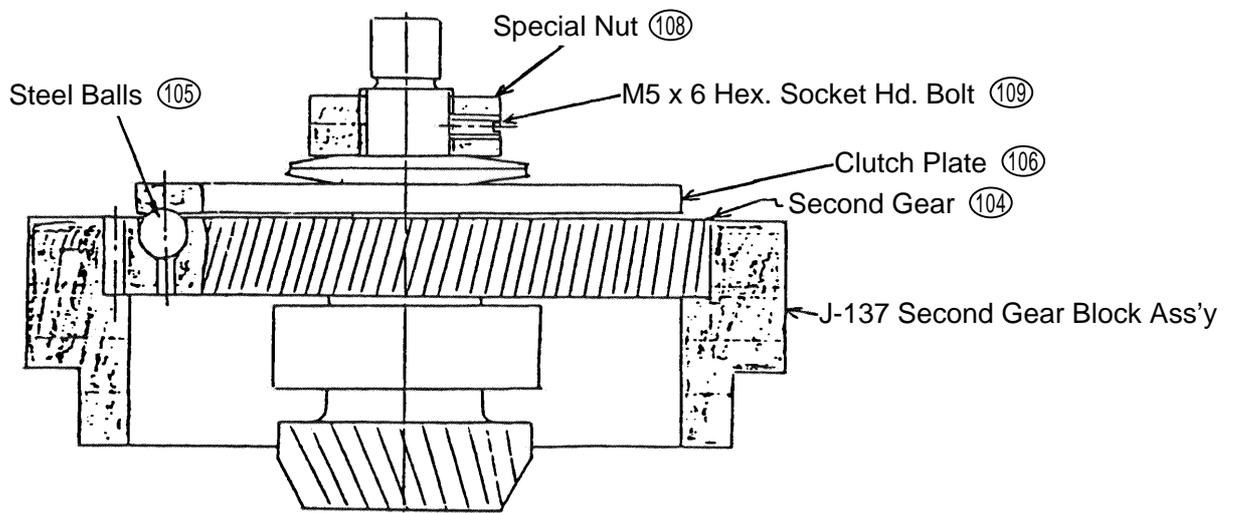

Fig. 6
To disassemble the slip clutch portion, secure a J-137 Second Gear Block Ass'y (Special Repair Tool, Code No. 970917) in a vise, insert the Second Gear (104) in the block ass'y as illustrated in Fig. 6, and loosen the M5 x 6 Hexagon Socket Hd. Set Screw (109). Finally, loosen the Special Nut (108) by turning it counter-clockwise with a J-122 Wrench (Special Repair Tool, Code No. 970884), and disassemble the remaining parts. At this time be very careful not to lose the seventeen Steel Balls (105) which are installed between the Second Gear (104) and the Clutch Plate (106).